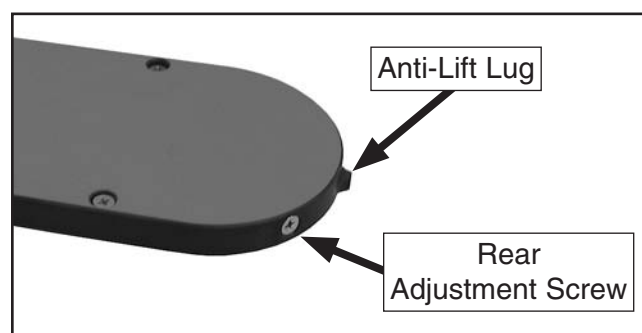

Figure 1. Anti-lift lug and rear adjustment screw.
2. Make sure the rear adjustment screw is fully threaded in so that it will not interfere in the next steps (see **Figure 1**).